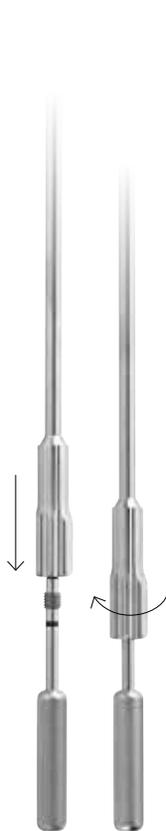

Figure 13a:
- Assemble the drill guide B handle by threading the guide B handle sleeve over the guide B handle shaft all the way past the threads, until the sleeve can be retracted toward the handle (Figure 13a).